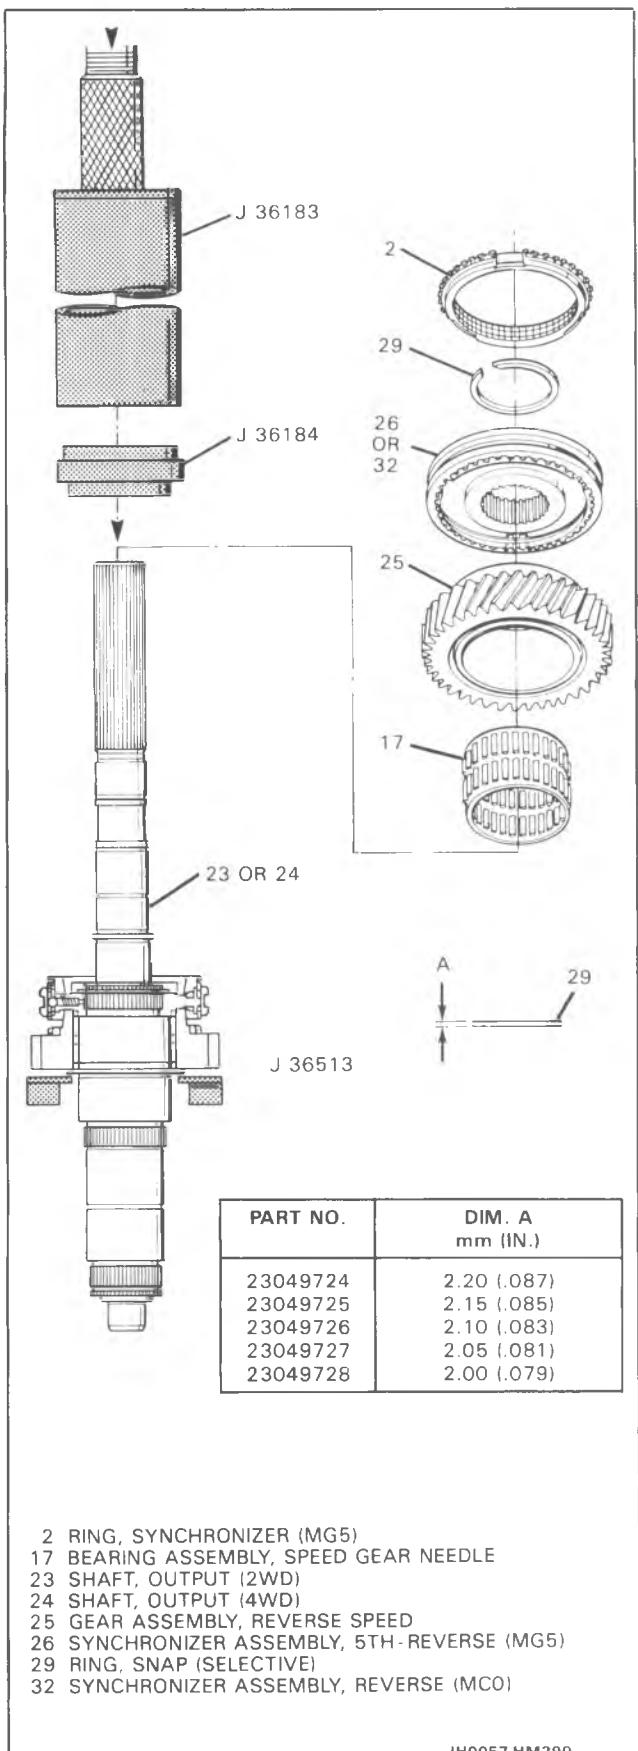

Figure 37 Reverse Gear Components Installed
4. Bearing assembly (17), reverse speed gear (25) (Figure 37).